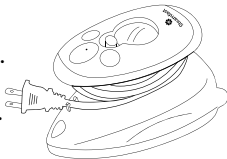

FIGURE 5
5. Wrap power cord around base of Hand Grip and secure end in Power Cord Clip as shown (FIGURE 5). Place unit and Measuring Cup inside Travel bag and store in a cool, dry location.